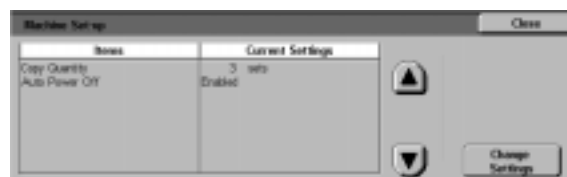

Figure 36: Machine Setup screen
- 1 On the Tools screen, touch the **Machine Set-up** icon to display the Machine Set-up screen, as illustrated in Figure 36.